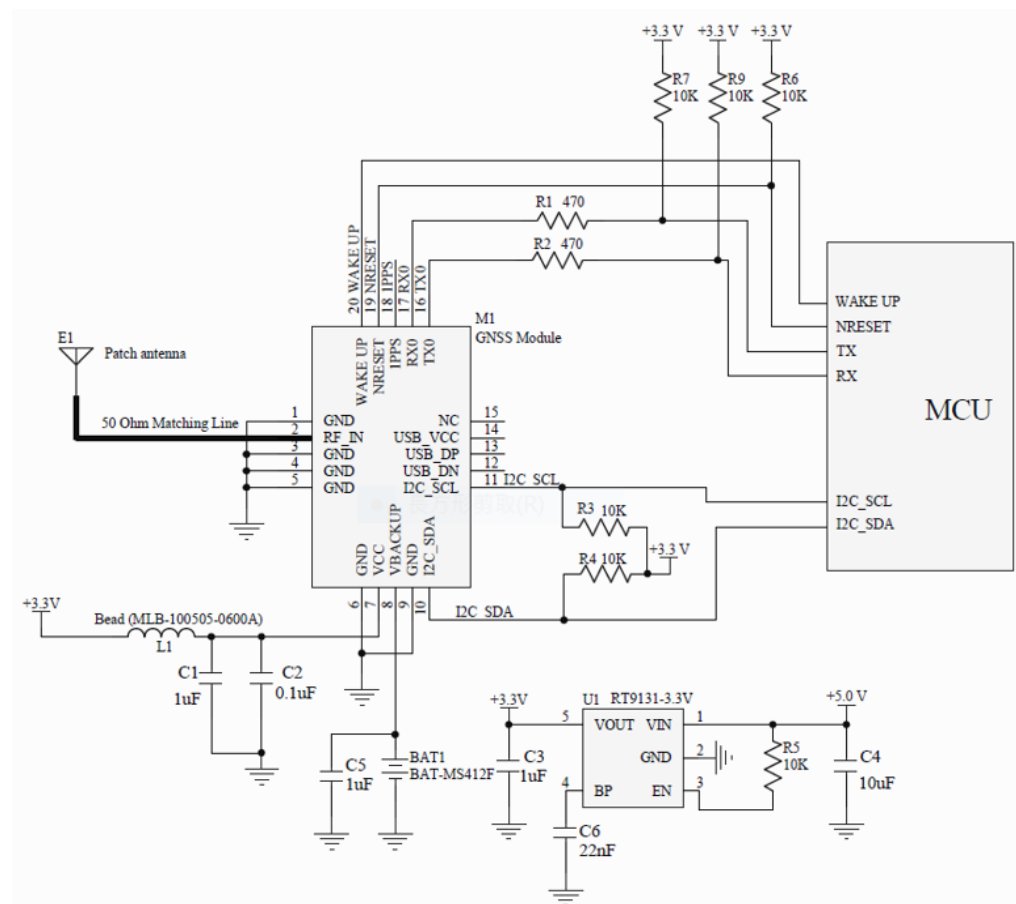

Figure 4-1: Reference Schematic for Using UART0 + I2C
1. UART0 + I2C — both interfaces can support NMEA output. Refer to Figure 4-1.